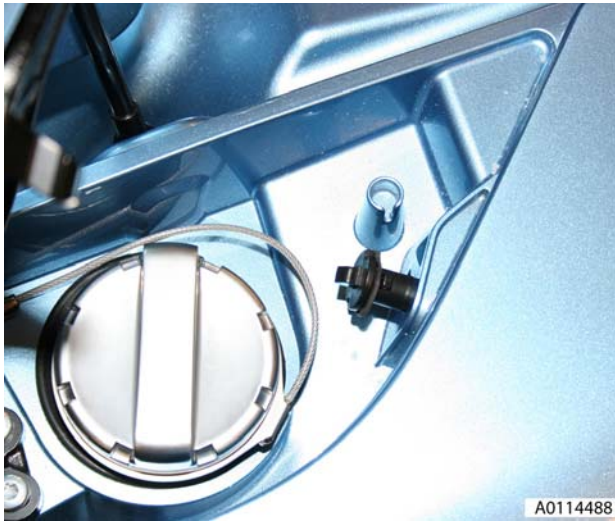

Figure 2
- Release bayonet fitting on release catch and remove cable (see Figure 2).